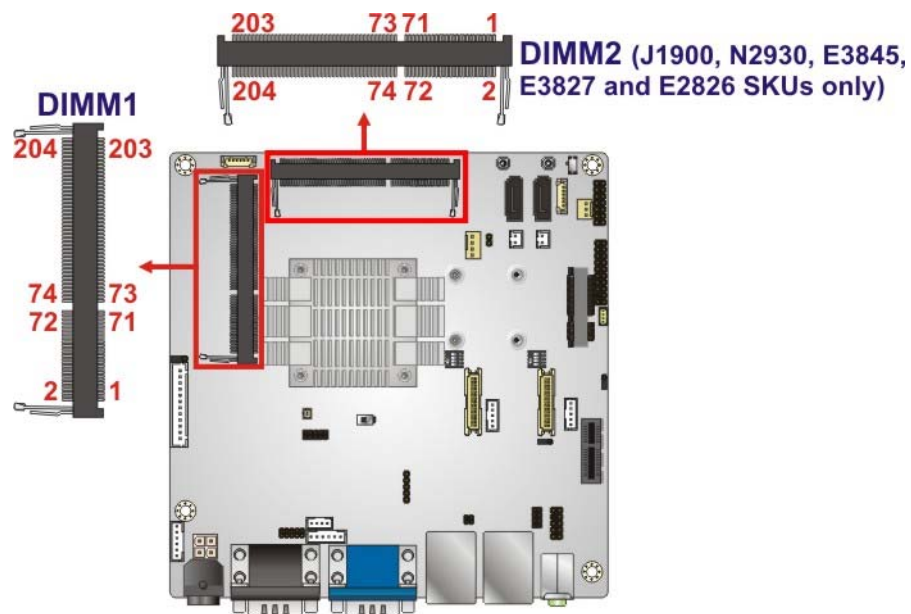

Figure 3-28: SO-DIMM Connector Locations
- CN Location:** See **Figure 3-28**